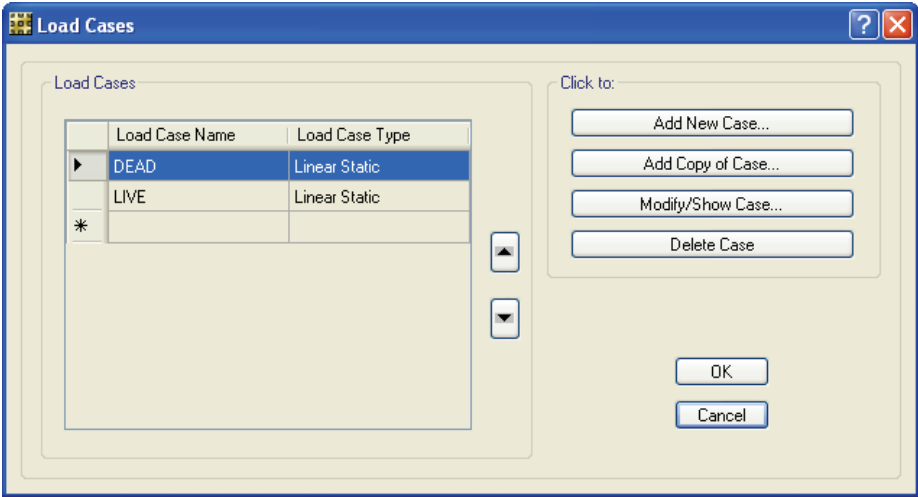

Figure 18 Load Cases form
A. Click the **Define menu > Load Cases** command to access the Load Cases form shown in Figure 18.